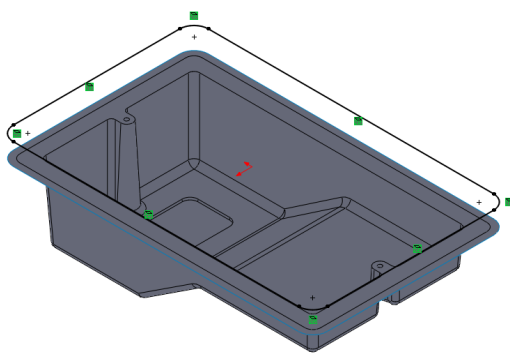

Figure 21-45 Sketch for creating the Core
9. Select the newly created plane as the sketching plane and create the sketch of the Core using the **Convert Entities** tool, as shown in Figure 21-45.